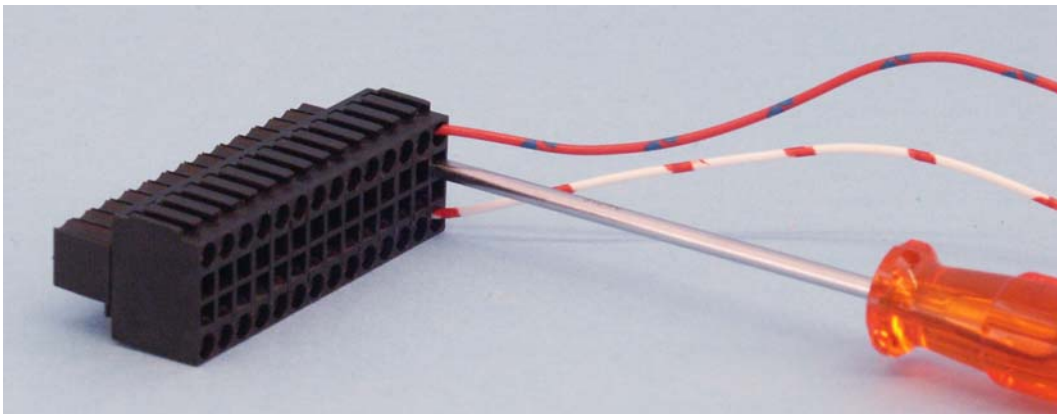

Figure 20: PLC connector
3. Connect the PLC connector (*Figure 20*) to the controller.